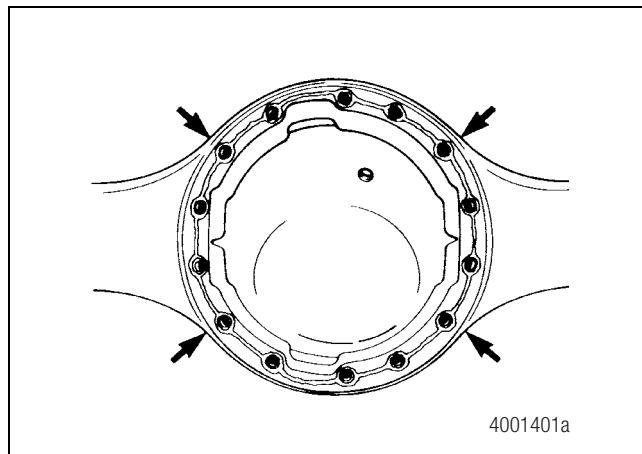

Figure 5.5
5. Install the nuts or capscrews and washers into the four corner locations around the carrier and the axle housing. Hand-tighten the fasteners. Figure 5.5.
6. Carefully push the carrier into position. Tighten the four fasteners two or three turns each in a crisscross pattern. Figure 5.5.